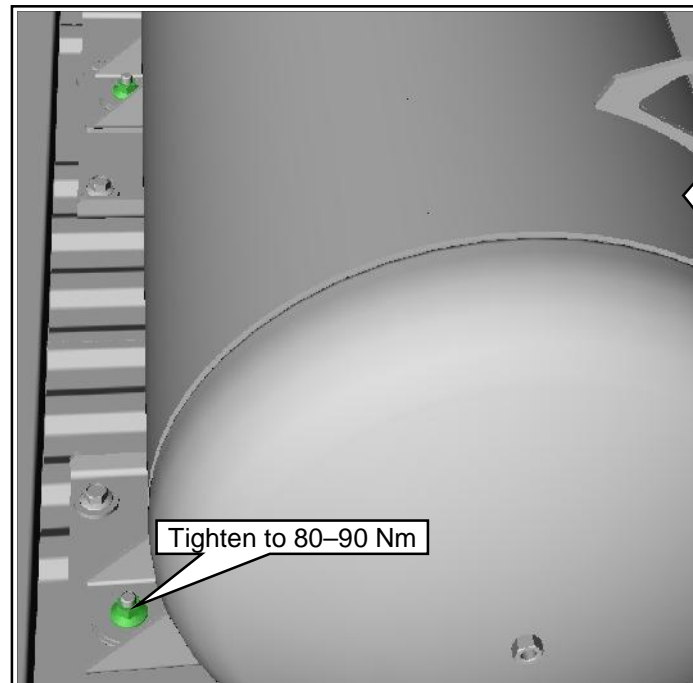

Figure 19.5
5. Install the four nuts onto the tank bracket studs over the washers. Hand tighten the nuts until all are started. Tighten the fasteners to specification. **Figures 19.5 and 19.6.**